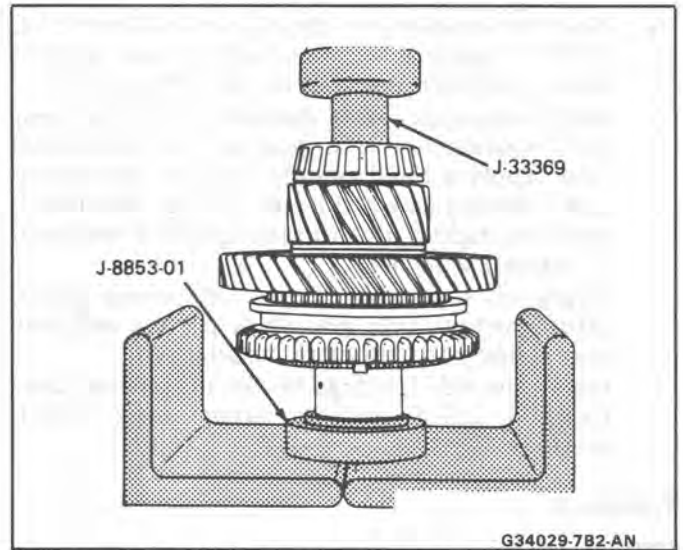

Fig. 30 Collar Sleeve and Hub (1st)
2. Match the inserts of the sleeve and hub assembly with the grooves of the blocker ring and press the sleeve and hub assembly together with the collar using J 8853-01, pilot J 33369 and a press (Fig. 30).